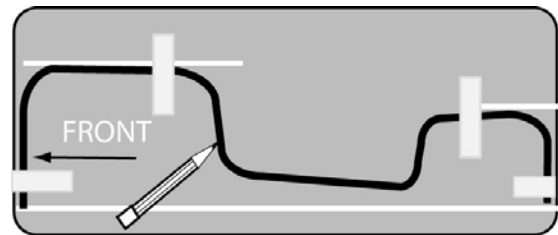

Figure 23
- l) Center the formed Wire (right and left) on your Template Board (**Figure 23**), and bring the formed Wire to the horizontal **HEIGHT A** and tape it to prevent movement. Repeat the process for the **B HEIGHT** at the rear edge of the Template Board and tape it in place.
- m) Tape the front and rear ends of the Wire and then trace the contour of the Wire on to the Template Board (**Figure 23**).